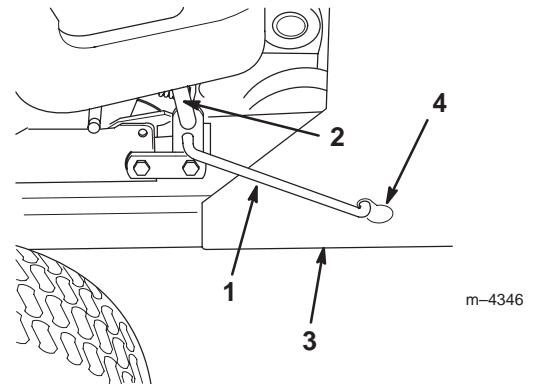

Figure 20
12. On the right side of the tractor, pull forward on the spring tension lever and connect the spring tension link to the keyhole slot in the snowthrower frame (Fig. 20).